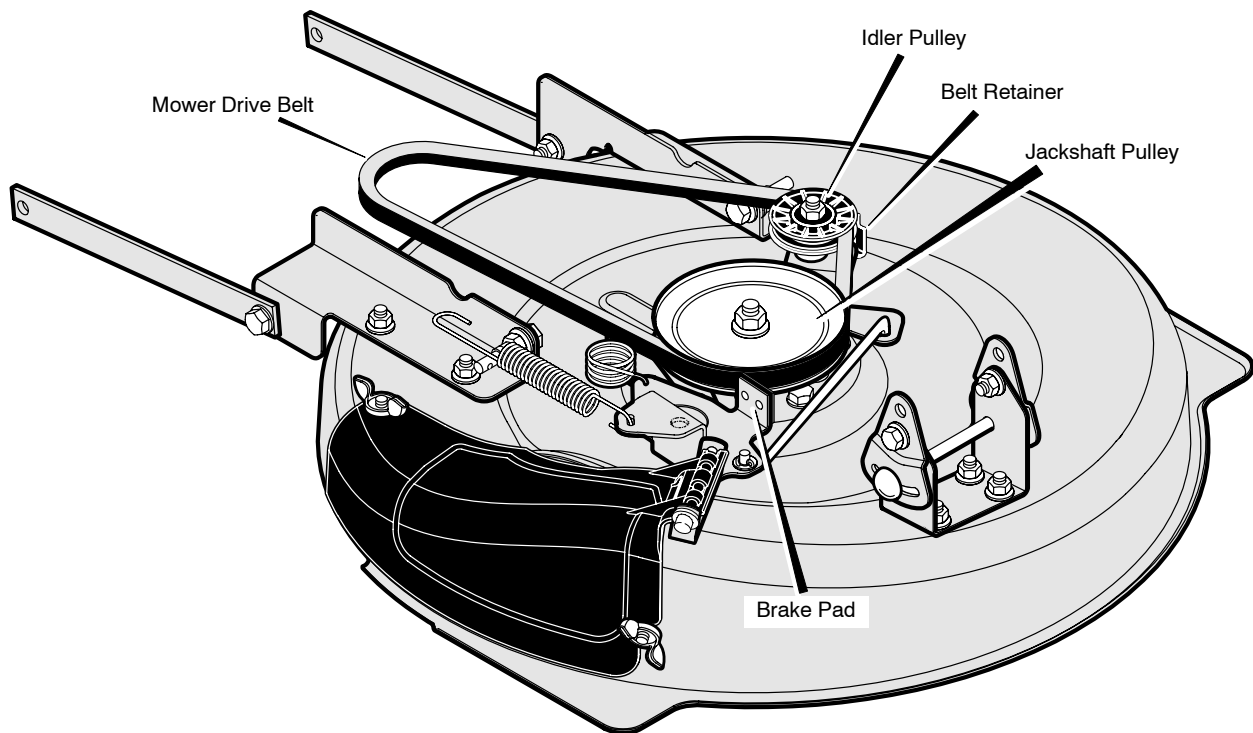

Figure 39
2. Pull the **belt retainer** away from the **idler pulley** and remove the **mower drive belt** (Figure 39).